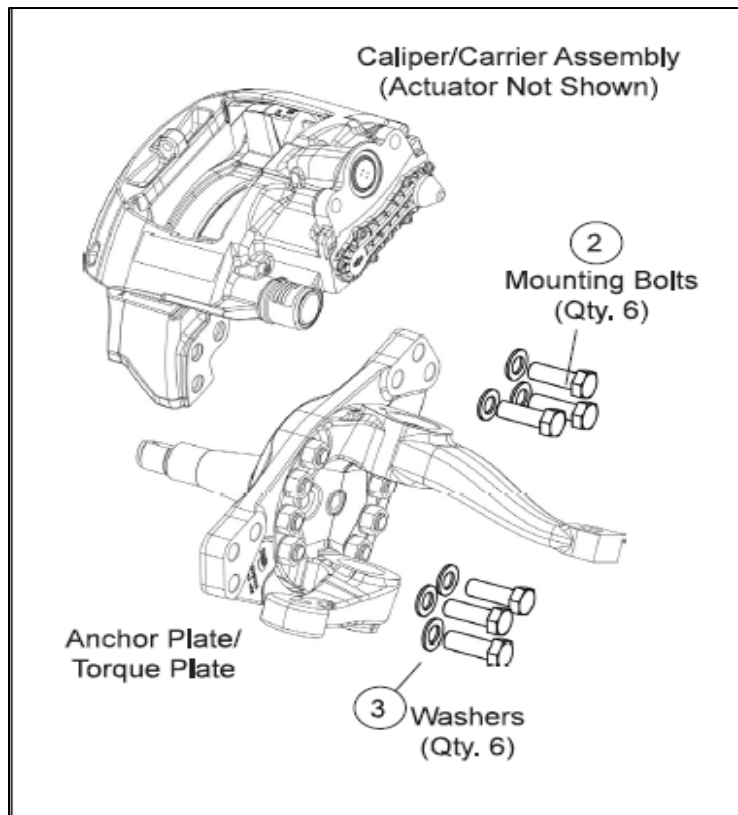

Figure 10: Axial Mount Caliper/Carrier
14. Supporting the air disc brake in a safe way, remove and discard the six bolts (**Figure 10, Item 2**) and washers (**Figure 10, Item 3**) attaching the brake to the anchor plate and remove the caliper/carrier assembly from the vehicle.
15. Supporting the air disc brake in a safe way, attach the brake to the anchor plate using six bolts (**Figure 10, Item 2**) and, if included, washers (**Figure 10, Item 3**). Do not reuse removed bolts and washers.